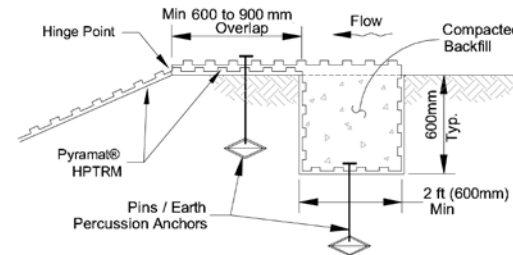

FIGURE 8: TERMINAL TRENCH (UPSTREAM) DETAIL
- Excavate terminal trench 600mm wide x 600mm deep, minimum 300-900mm over crest of bank (see Figure 8).
- Pin, backfill and compact end of mat in terminal trench (see Figure 8). Terminal trench pinning devices should be spaced on 300mm centers (see Figure 8). Unroll mat in downstream direction over compacted trench with a minimum 600mm lap. Secure lap with pinning devices on 300mm centers and earth percussion anchors on 1.2m centers.